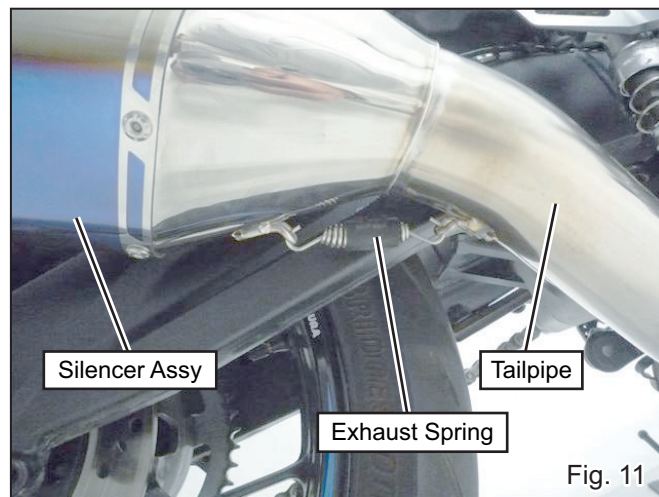

Fig. 11
9) Fix Silencer Assy on Tailpipe using Exhaust Spring (See Fig. 11).